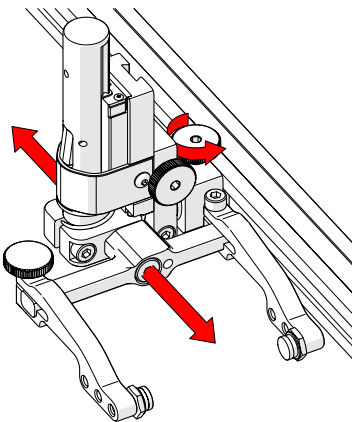

Fig. 171 - Adjust on frame bar
1. The probe holder adjustment knob allows the probe holder to be attached to a frame bar, as well as horizontal positioning on a frame bar (Fig. 171).